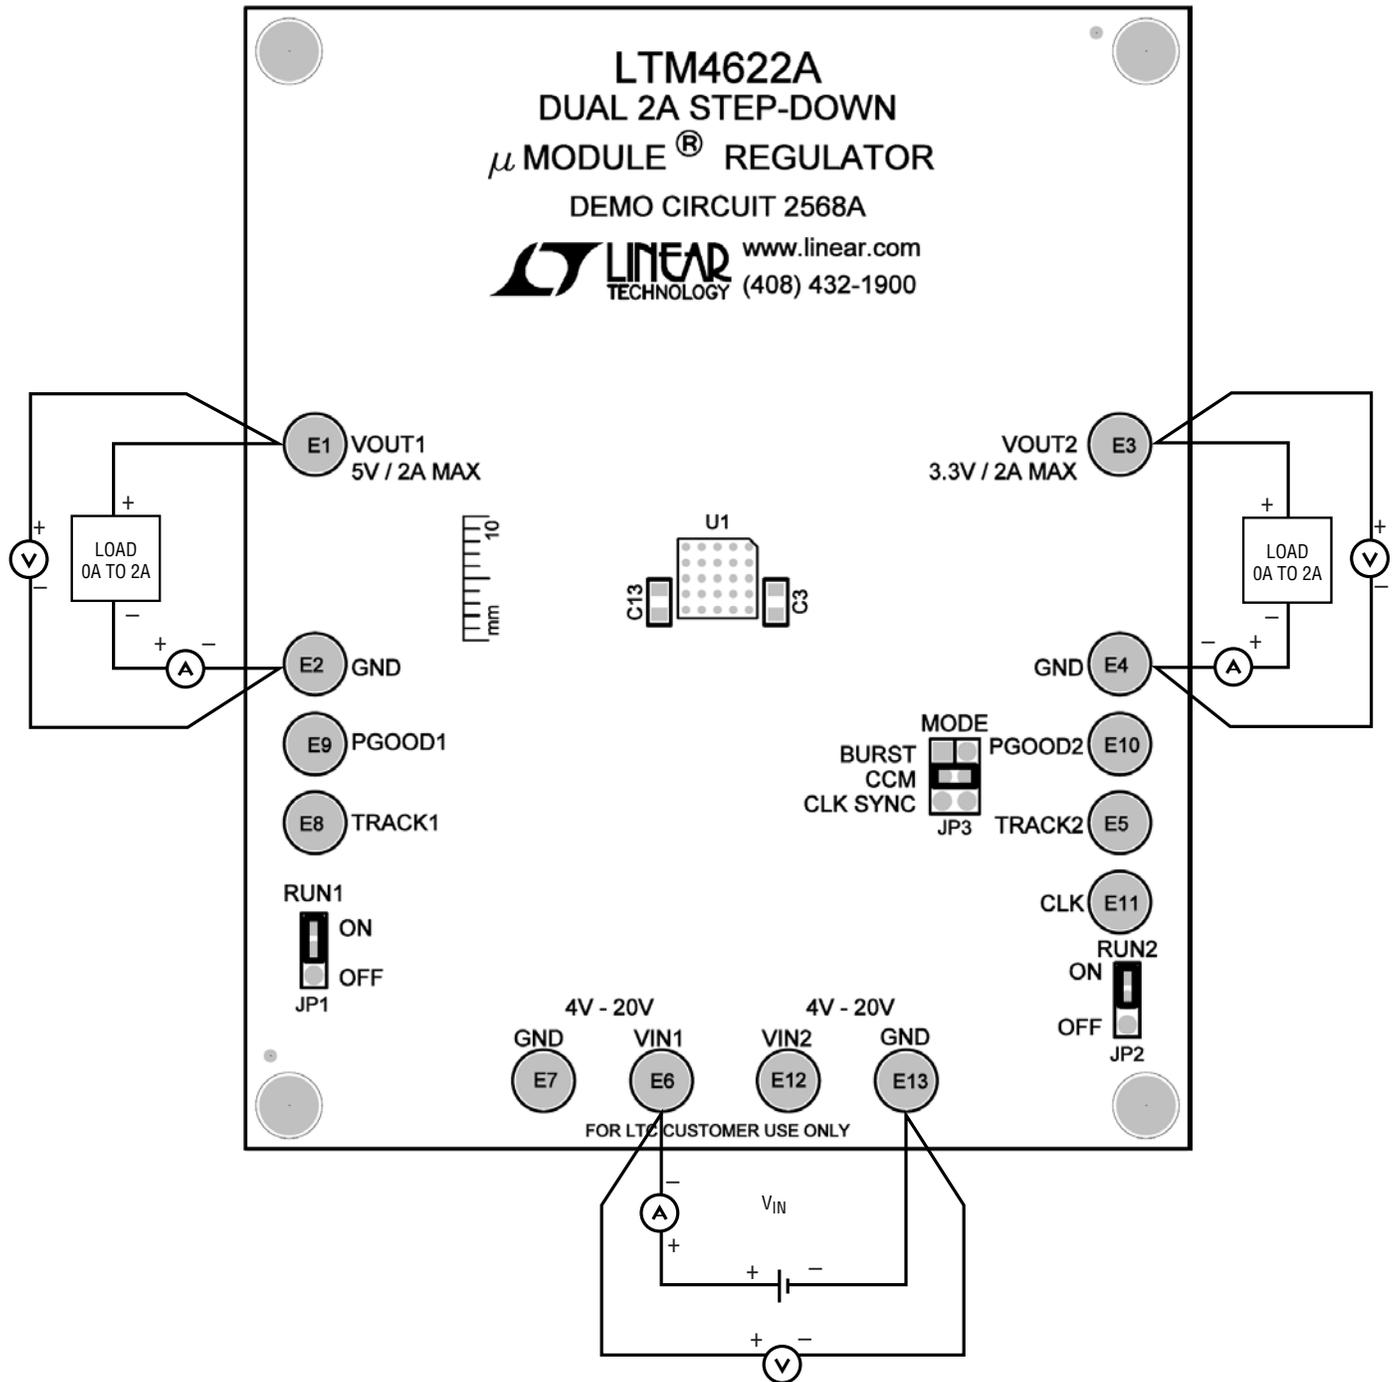

Figure 1. DC2568A Test Setup
Demonstration circuit 2568A is an easy way to evaluate the performance of the LTM4622A. Please refer to Figure 1 for test setup connections and follow the procedure below.
3. With power off, connect the loads, input voltage supply and meters as shown in Figure 1.